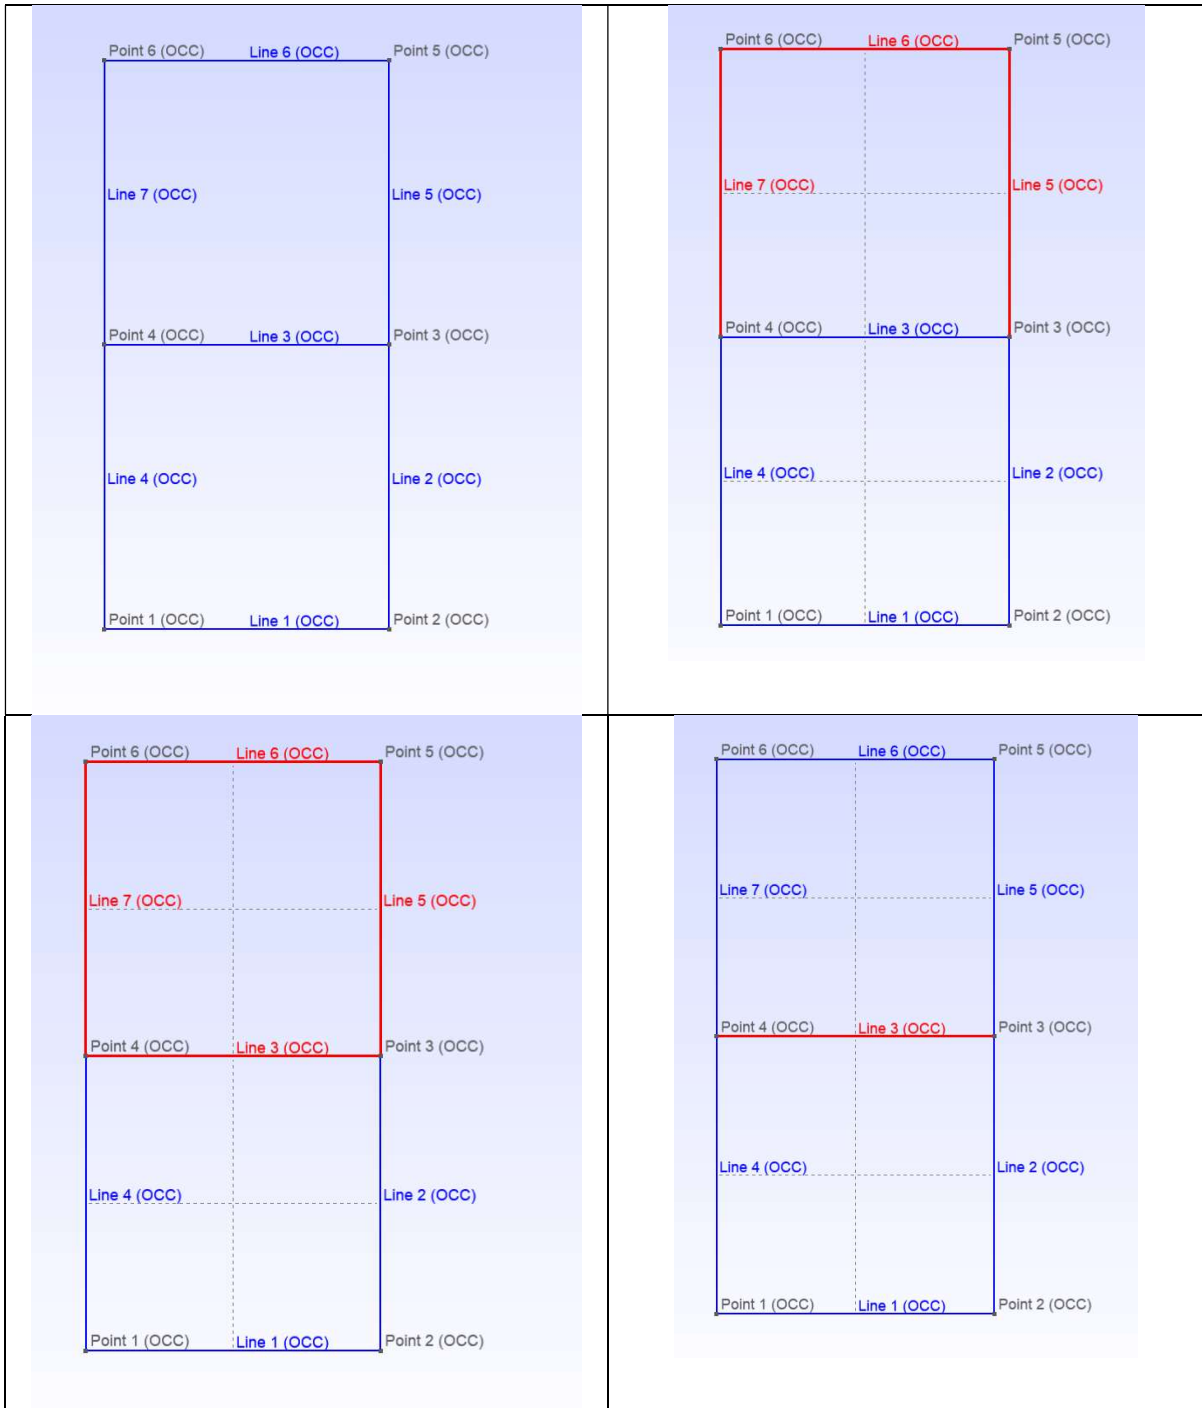
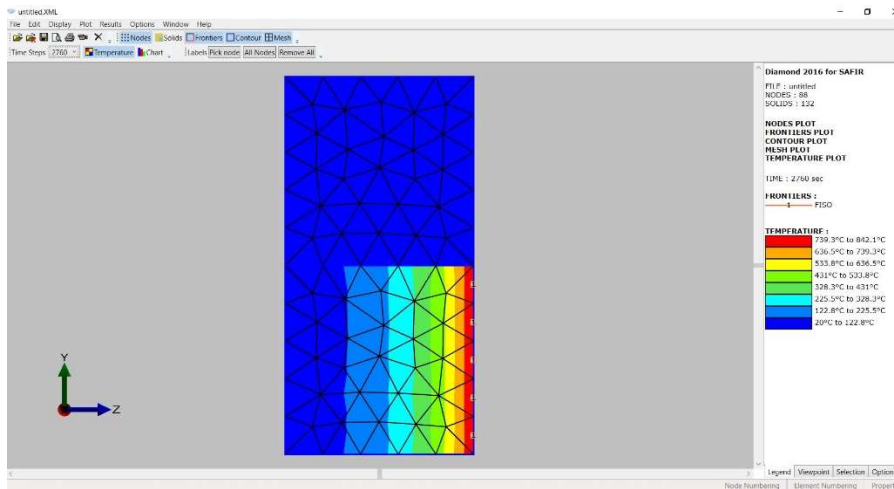

Figure 10: creation of surfaces
Figure 11: isotherms in two rectangles that are not coherent
- Using “Add/Plane surface” requires some attention. For SAFIR, the surface has indeed to be described in counterclockwise direction. The first line that is selected to describe the surface must be a line that has the appropriate direction: the surface must be on the left if you imagine that you walk on the line from its point 1 to the point 2. How the lines are used to create the surfaces is illustrated by the example of Figure 10. On the top left are shown the 7 lines that have been created. They have been created as such:
If you select “Add/Plane surface”, you are asked to select the first line of the surface. If you select line 5, GMSH understands that the surface must comprise also lines 6 and 7 and they are selected, see top right. At this stage, GMSH cannot guess whether the surface will be closed by line 3 or by lines 4, 1 and 2 and is therefore waiting for you to select the next line. If you select line 3, the result is shown on the bottom left of Figure 10.
If we start defining the surface by line 3, see bottom right in Figure 10, GMSH does not know whether our surface is based on lines 3, 7, 6 and 5 or on lines 3, 4, 1 and 2. Selecting the line 5 will close the surface based on the upper rectangle (same visual result as bottom left in Figure 10) but the script will now show:
It is possible to construct regular surfaces directly, for example by the “Add/Rectangle” command. The rectangle created in this way will comprise the 4 lines and the 4 points on which it has been based. From what we could see, the direction of the lines that make the rectangle are counter clockwise. This is in fact how the rectangle based on lines 1, 2, 3, and 4 has been created in Figure 10 and this is why line 3 was defined from point 3 to 4.
example, the line 2 in Figure 10 is exposed to the fire, the isotherms will have the pattern shown in Figure 11.